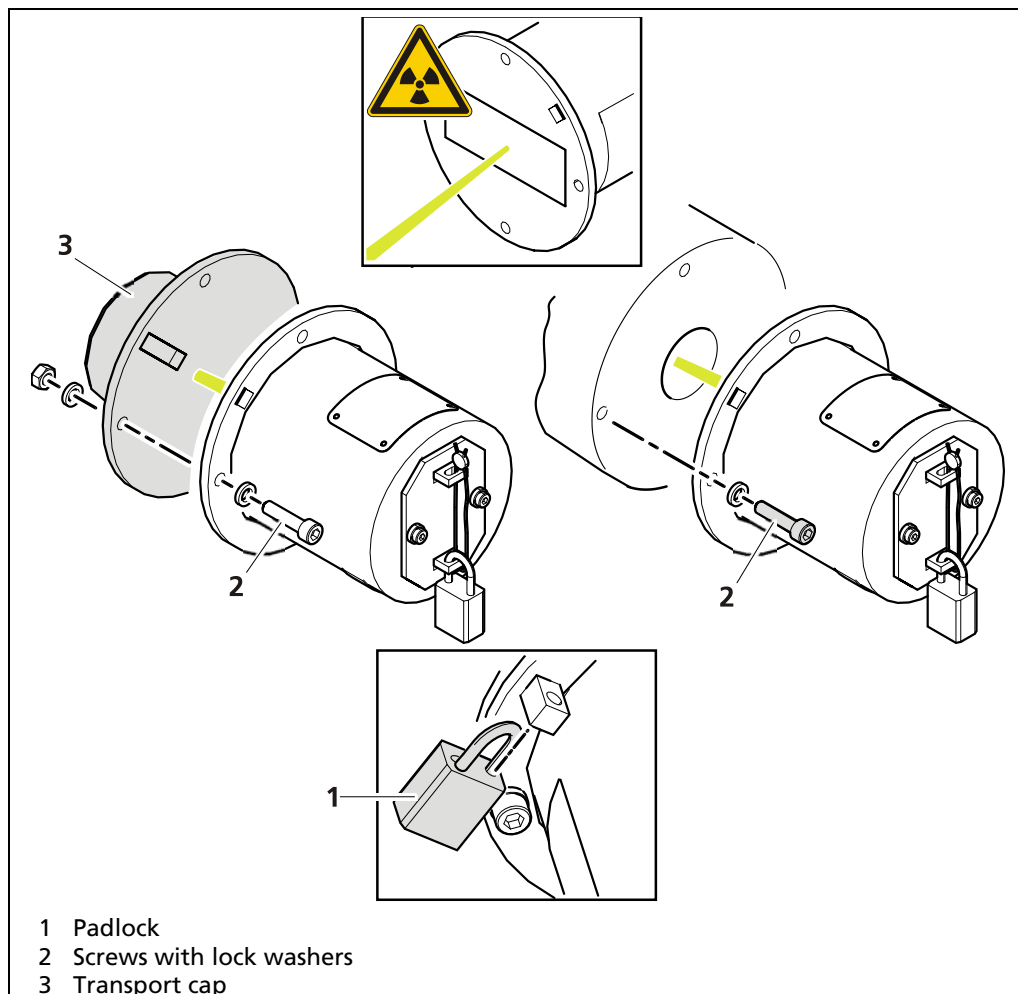

Fig. 5 Installation of the shield
2. Remove the padlock (Fig. 5, item 1) at the transport cap.
3. Remove the hex socket screws and lock washers (Fig. 5, item 2).
4. Remove transport cap (Fig. 5, item 3).